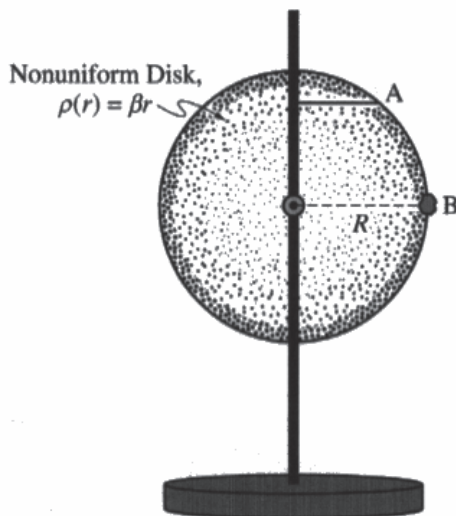

Figure 3
- (d) A nonuniform disk is now attached to the axle. The lump of clay is attached to the disk at Point B, as shown in Figure 3. The clay has mass $m_c = 0.60$ kg and the disk has a radius $R = 0.30$ m. The mass density of the disk varies radially and can be modeled by $\rho(r) = \beta r$, where r is the radial distance from the axle and $\beta = 4.0$ kg/m³.